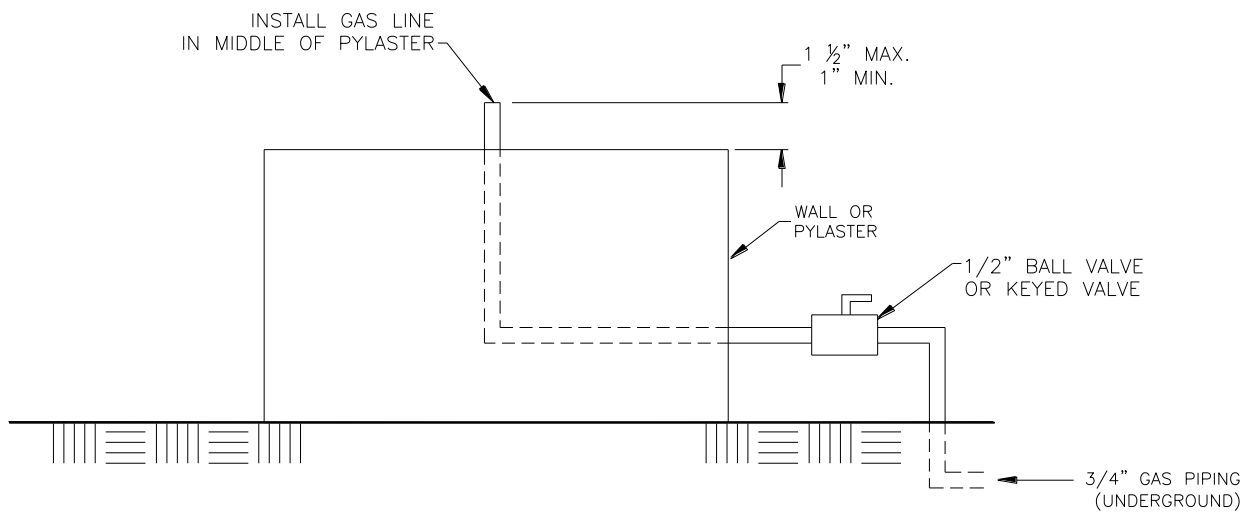

Figure 1
- 2.5 Install the Architectural Pottery Unit as shown in Figures 1, 2 & 4. Figure 3 is an optional configuration to catch dirty run-off water.
- 3.12 The height of the flame can be adjusted by opening or closing the ball valve as shown in Fig. 1.